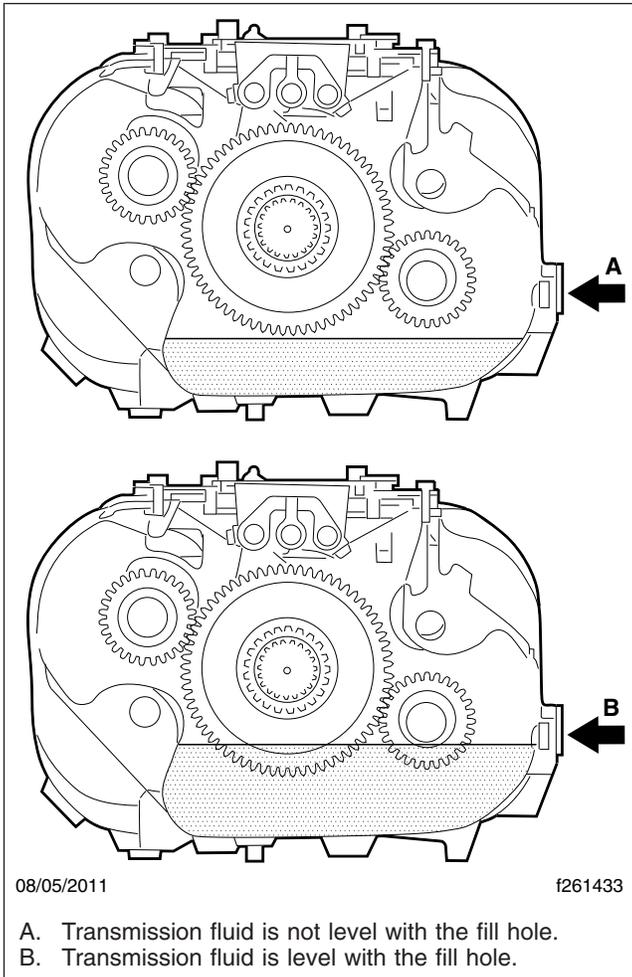

Fig. 7, Transmission Fluid Levels
2. Add transmission fluid until the fluid starts flowing out of the fill hole. See Fig. 7.